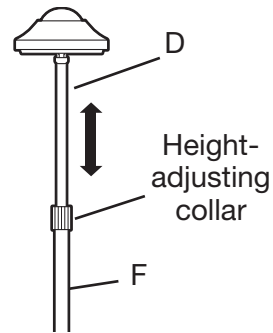

Fig. 3
1. To adjust lamp height – hold upper shaft (F) with one hand, loosen height adjusting collar. Raise or lower lamp arm (D) to desired height. Tighten collar (Fig. 3).